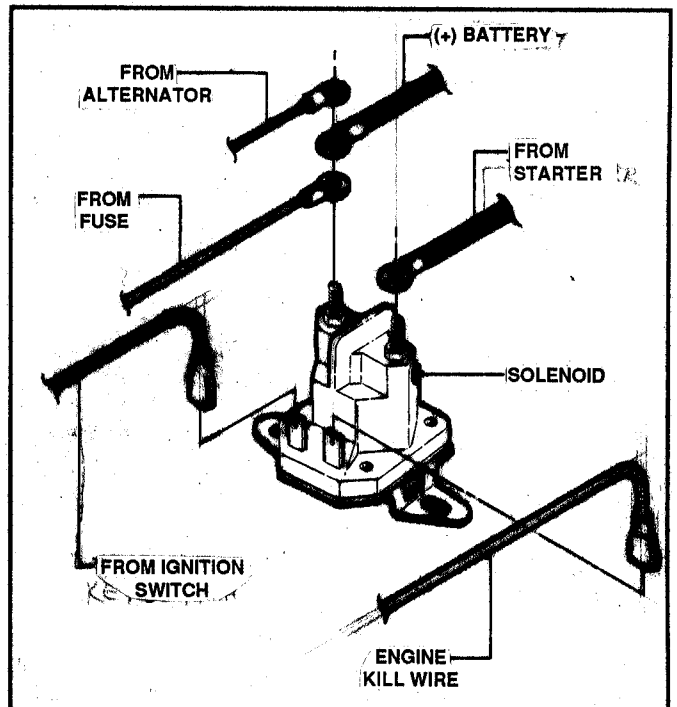

FIGURE 6.8
3. Remove the two (2) solenoid mounting screws and remove solenoid.
4. Replace with new solenoid. See Figure 6.8 for proper wire connections.